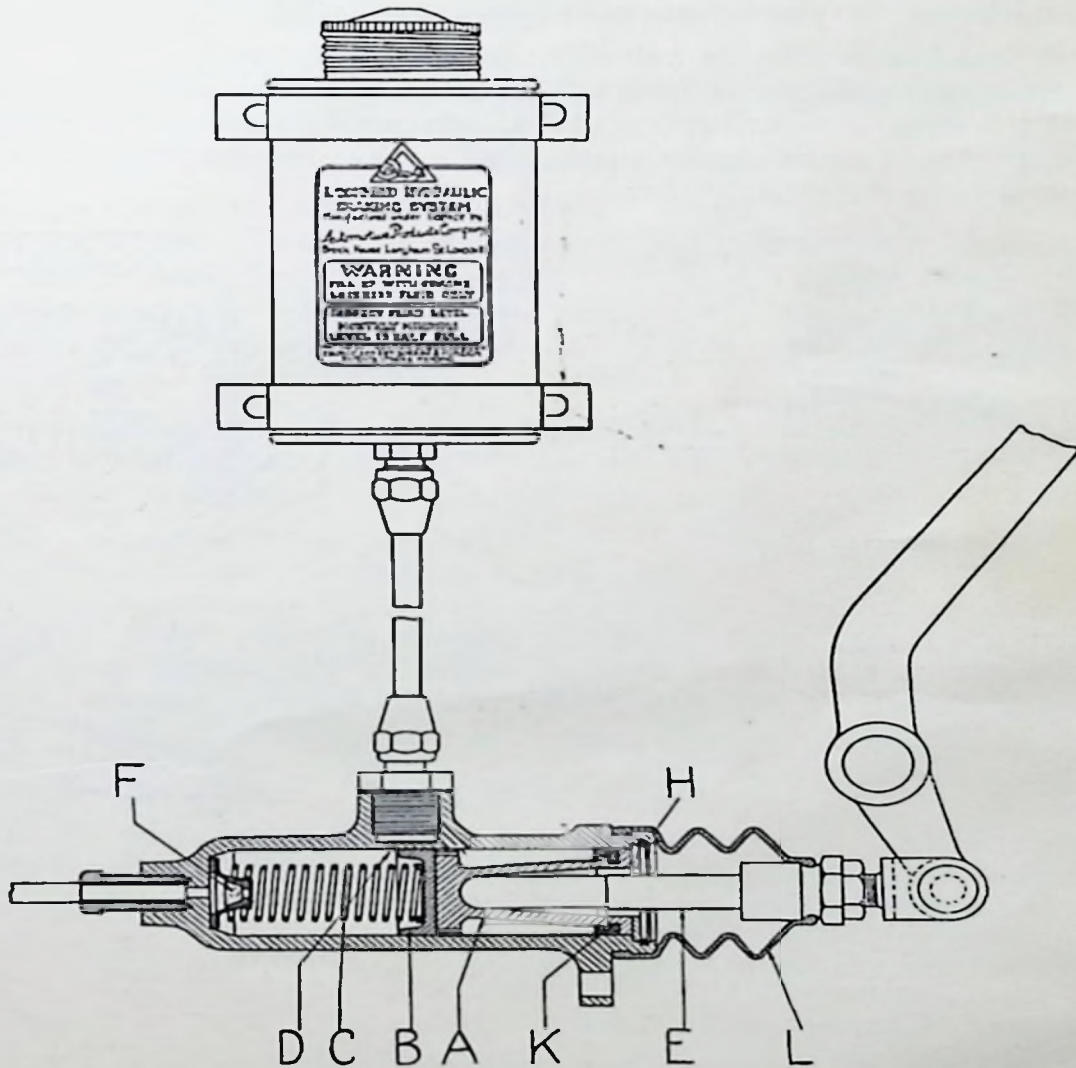

Fig. 2.
**THE MASTER CYLINDER.** This is designed to automatically maintain in the system, when at rest, a constant volume of fluid at a uniform pressure of 8 lbs. per square inch, this pressure acting as a liquid expander on all rubber cups, ensuring a complete and efficient sealing of the system (Fig. 2).
Within the master cylinder (Fig. 2) is a piston (a) and a cupped washer (b) normally held in the "off" position by a coil spring (c). Immediately in front of the cup washer, with the piston in the "off" position, is a small port hole (d) connecting the cylinder interior with the hollow boss above it, which is connected by a copper tube to the fluid supply tank. With any rise of temperature causing the fluid to expand in the system, the fluid is allowed to pass through the port into the supply tank. With any drop in temperature causing the fluid to contract, the fluid flows back through the port; thus a constant volume of fluid is maintained in the system.
When the brakes are applied, the master cylinder piston is pushed forward and fluid is forced through holes in the metal valve body, deflecting the walls of the rubber cup and so passing into the system. (See Fig. 3). When the pedal is released, the master cylinder return spring forces the piston back to its "off" position against its stop (h) (Fig. 2), at the same time the pistons in the wheel cylinders are forcing the fluid back and so lifting the whole valve assembly off its seat (Fig. 4) by the action of the brake shoe return springs, until the fluid pressure balances with the effort of the master cylinder return spring, and the inlet valve closes.